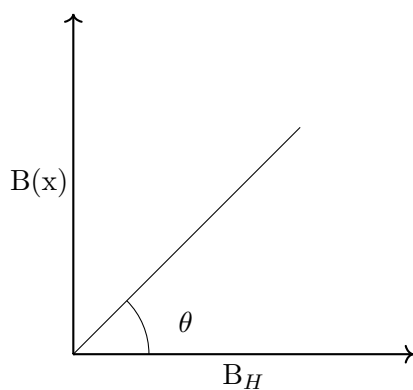

Figure 8.2: Model graph.
8. Draw the graph (e.g. as shown in the figure 8.2) of  $\tan\theta$  Vs.  $B(x)$  and calculate the horizontal component of the earth's magnetic field ( $B_H$ ) from the slope of the graph. The experiment is to be performed only on one side of the coil.